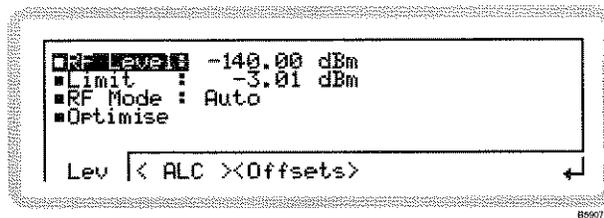
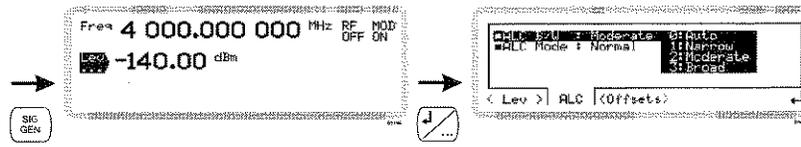
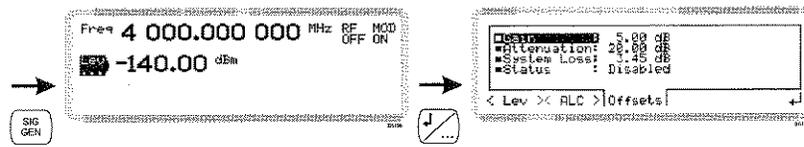

Fig. 3-21 RF level
Fig. 3-22 ALC
Fig. 3-24 RF level offset
- 2 Press to view the sub-menus. *RF Level* is highlighted (Fig. 3-21).
From the RF level menu of Fig. 3-21, touch <ALC> or press **<TAB>** to display the ALC screen (Fig. 3-22).
- 1 From the RF level menu of Fig. 3-21, touch <Offsets> or press **<TAB>** to display the RF offset screen (Fig. 3-24).